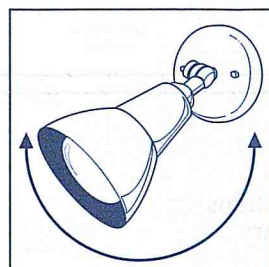

Figure 8
- To prevent water from entering the bullet light fixture, do not position light beyond 65° in any direction (see figure 8).